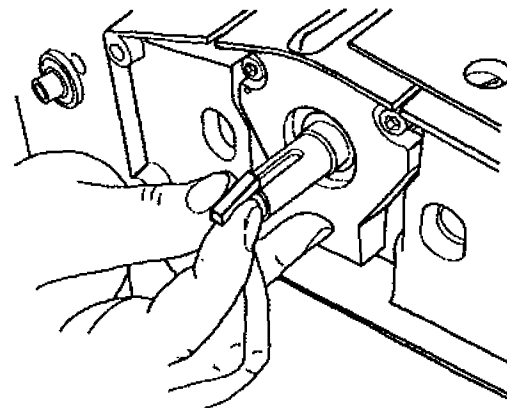

Fig. 30
38. Insert a key (110) into the slot of the cutterhead motor's drive shaft, as shown in Fig. 30.